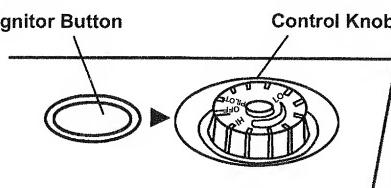

Figure 19 - Control Knob In The OFF Position
4. Wait five(5) minutes to clear out any gas. Then smell for gas, including near the floor. If you smell gas, STOP! Follow "B" in the safety information on the side of heater. If you don't smell gas, go to the next step.
5. Turn control knob counterclockwise \curvearrowleft to the PILOT position. Press in control knob for five(5) seconds. (see Figure 19).